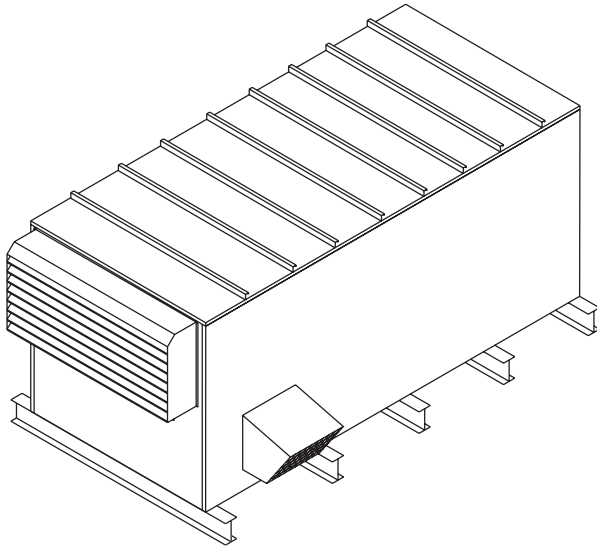

FIGURE 5: Isometric view of APEX on rails.
- Rails should run the width of the unit and extend beyond the unit a minimum of 12 inches on each side (see **FIGURE 5**).